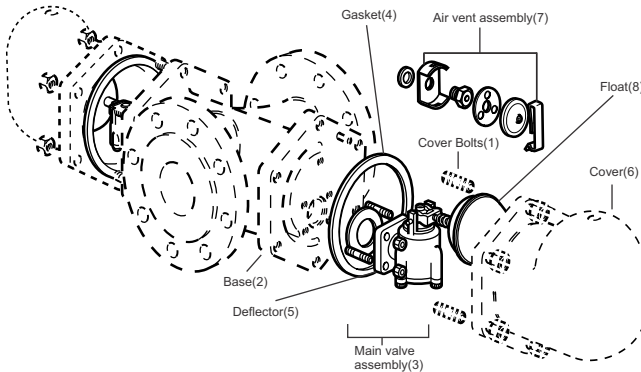

Figure 6: Maintaining the main valve assembly
7.4 Maintaining / Replacing the main valve assembly : (Refer to Figure 6)
9. Available Spares: (Refer to Figure 6)